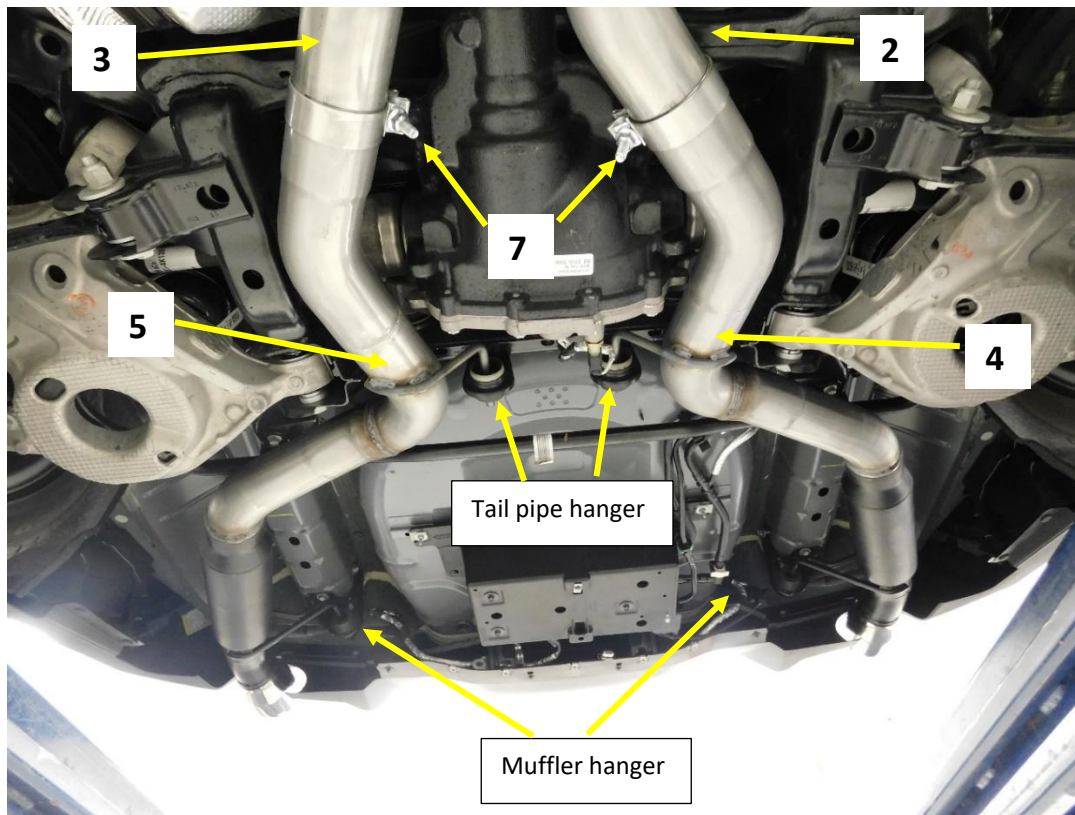

Figure.11
11. Install a 3" band Clamp (7) onto the expanded end of the left and Right Muffler assembly with the bolt to the inside and the nut facing down. **Fig.11**
12. Install the right muffler assembly (5) on to the outlet of the Right Mid pipe (3).
13. Install the OEM muffler hanger on to the Flowmaster muffler hanger Rod. Rotate the hanger assembly up and clip the catch into the frame. Install the (x2) bolts. **Fig.11**
14. Install the Tail Pipe hangers on to the Flowmaster tail pipe hanger Rod. Hook the catch into the subframe. Install the bolt. **Fig.11**
15. Tighten the 3" band clamp (7) to allow for adjustment.
18. Make the necessary adjustments to the system for best clearance and tip alignment. Tip alignment adjustments side to side and up and down in the cut out, are best made at the slip joint between the muffler assemblies and the Mid pipes. (3/5 and 2/4) **Fig.11**